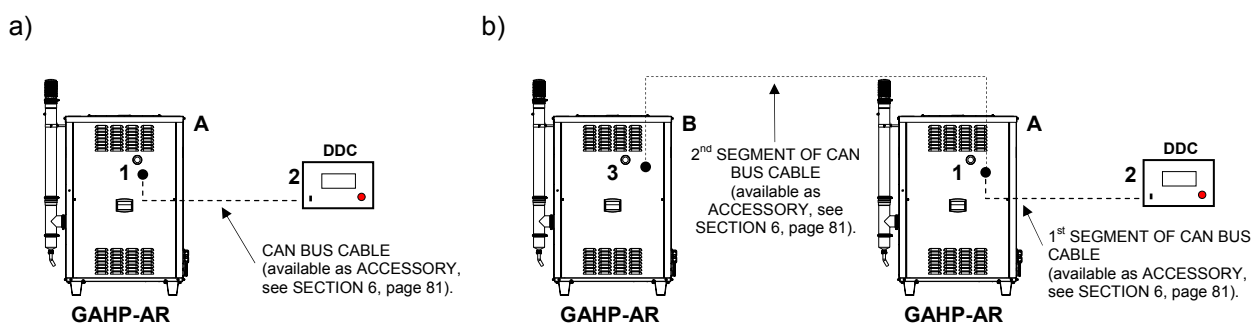

Figure 23 - Examples of CAN bus with: a) 2 nodes = 1 appliance + 1 DDC; b) 3 nodes = 2 appliances + 1 DDC
- If the DDC is an **intermediate node** of the network (see Figure 23, page 58): carry out also point 7;
- If the DDC is a **terminal node** the network (see Figure 23, page 58), do not carry out point 7 and proceed directly to point 8.